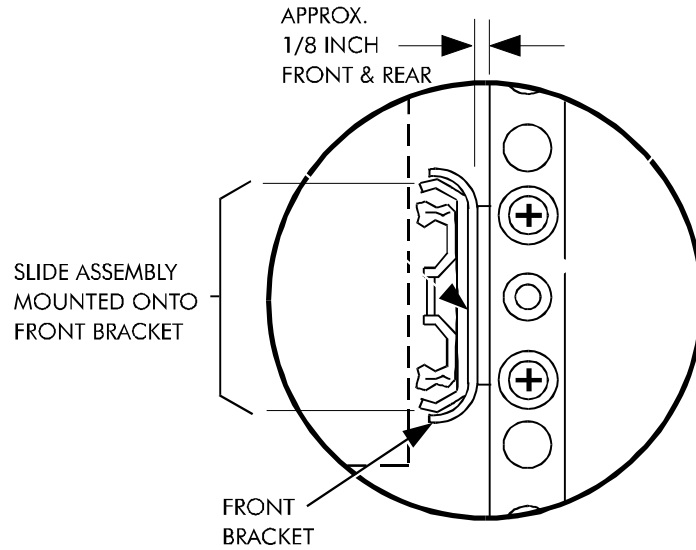

Figure 17. Rack Slide Placement
2. Tighten the screws on the lower right rack slide. Adjust the slide so it is approximately 1/8" from the rail front and rear as shown in **Figure 17**.